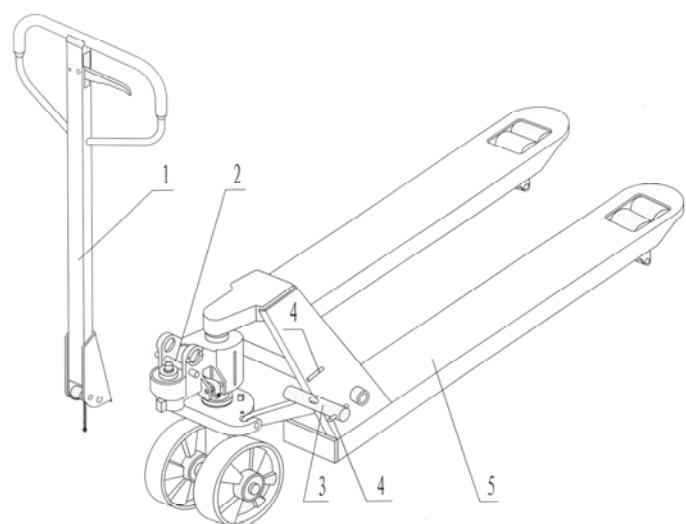
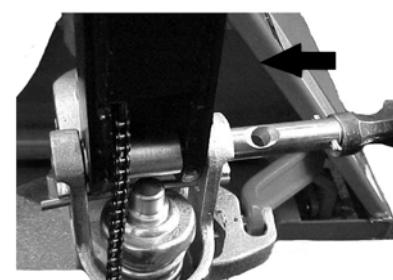

Fig. 5 Tiller assembling
Fig. 6: Axle assembling
- a) Insert the tiller arm(1, Fig.5) into the pump piston, then use a hammer to insert the axle with hole into the hydraulic pump and tiller arm from the right to the left (Fig. 6).
- c) Press the tiller arm down; take away the pin (2, Fig. 5).
- d) Set the control lever of the handle to 'RAISE' position, then raise the lever plate with the pin (2, Fig. 5) and insert the adjusting bolt into the front slot of lever plate.
- e) Use a hammer to insert the 2nd dowel pin (4, Fig. 5) into the 2nd hole of the axle.